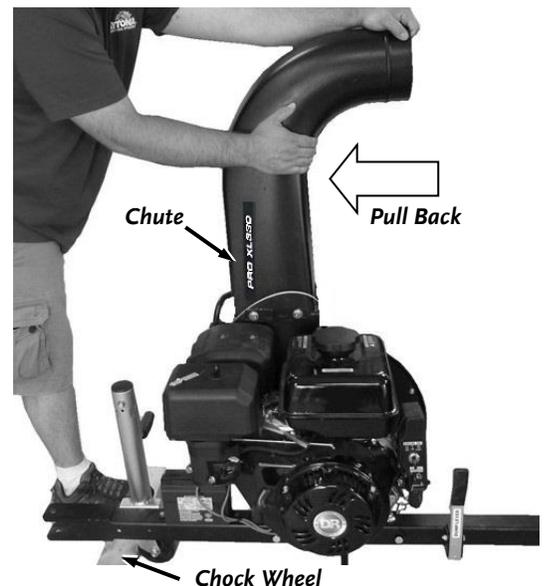

Figure 19
3. Chock the Wheels of the Cart to keep it from moving and have a helper pull forward on the Outlet Chute so the Power Unit and Cart Frame front holes are aligned (Figure 19).